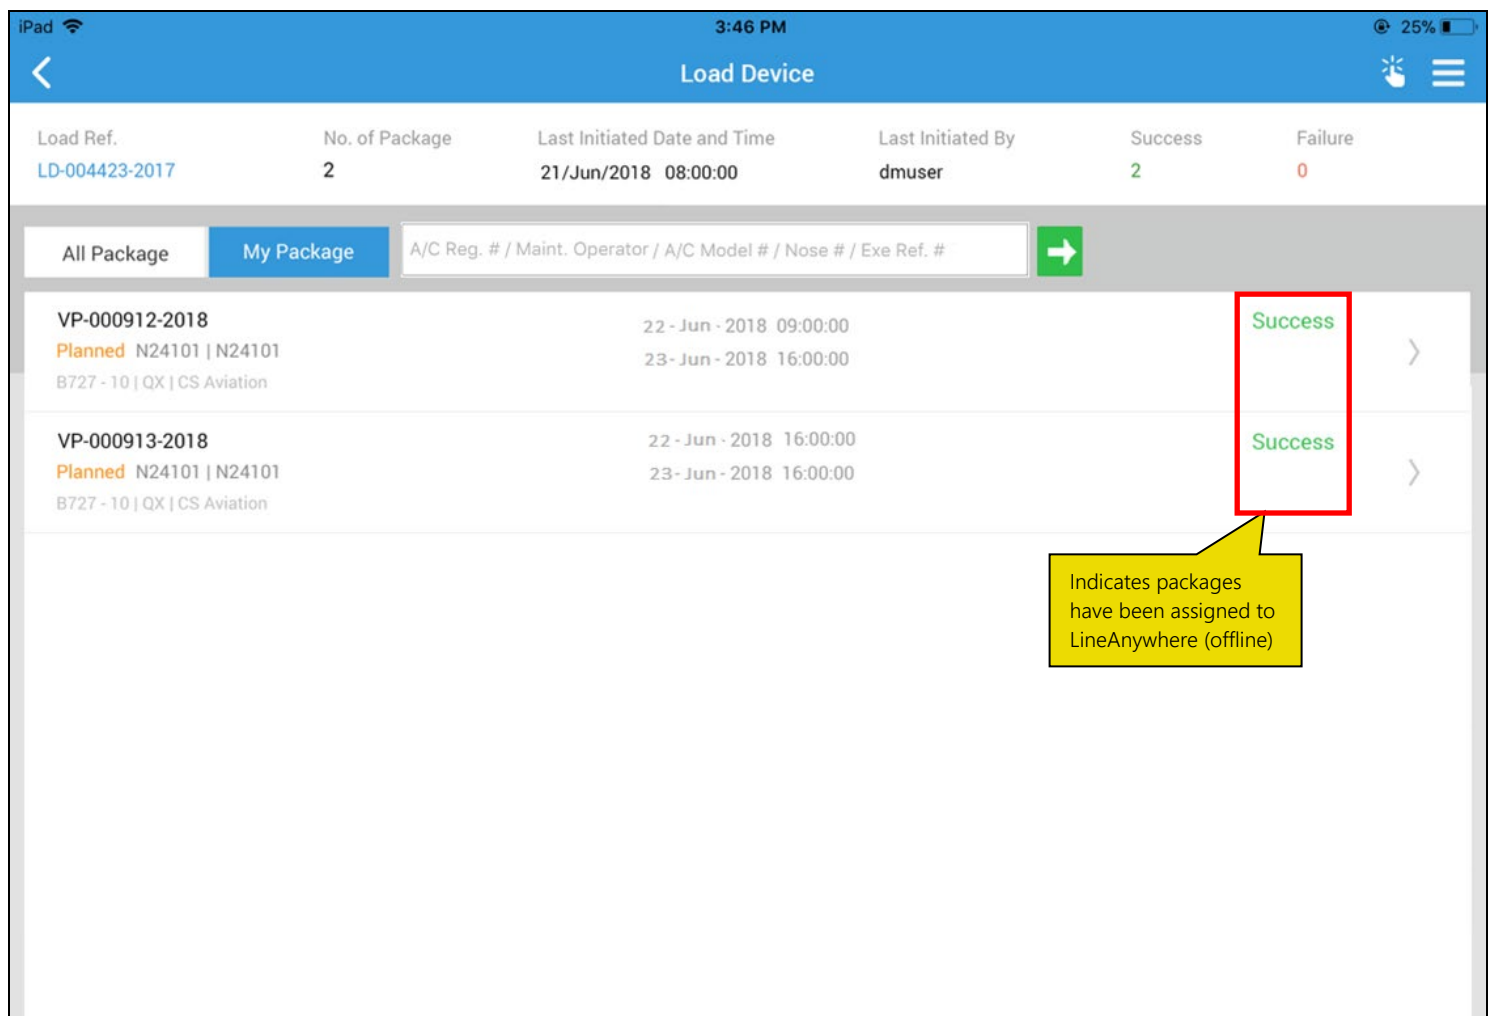

Figure 4.8. Loading data to a device
7. Traverse to the **My Package** tab to view the packages that have been successfully loaded to the offline device and can now be executed by the login user. On successful loading of the package to the device, the system sets the 'Mode of Usage' flag as 'Offline' for the packages loaded into the offline database of **LineAnywhere**. See Figure 4.8.